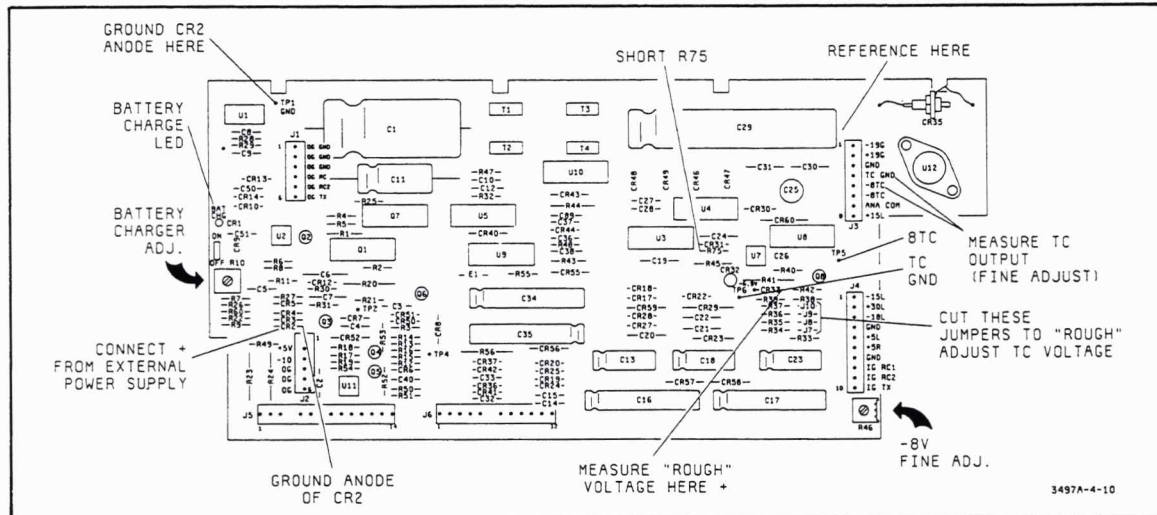

Figure 4-10. Mainframe Adjustment Locations
- e. Refer to Figure 4-10 and locate diode A16CR2. Using a clip lead, connect the anode (TP2) of the diode to chassis ground (TP1), as shown in Figure 4-10.
f. Set the external power supply to a little less than 5V. Then connect the positive output of the power supply to the cathode (TP3) of A16CR2, as shown in Figure 4-10. Connect the negative output of the power supply to chassis ground.
- f. Connect the test voltmeter to the fourth (TC GND) and fifth (-8TC) pins of A16J3 or connect to TP5 (-8TC) and TP6 (TC GND), as shown in Figure 4-10.
2. Refer to Figure 4-10 and locate resistor A16R75 on the power supply board. Short across the resistor.
3. Next, locate A16C29 and connect the negative lead of the test Digital Voltmeter to the negative lead of the capacitor, as shown in Figure 4-10. Then locate diode CR33 and connect the positive lead of the voltmeter to the cathode of the diode, as shown in the figure.